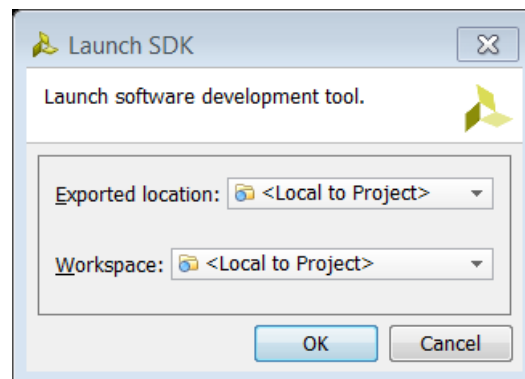

Figure 73: Launch SDK Dialog Box
4. Select **File > Launch SDK**. Make sure that both the **Exported location** and **Workspace** fields are set to **<Local to Project>**, as shown below in Figure 73.